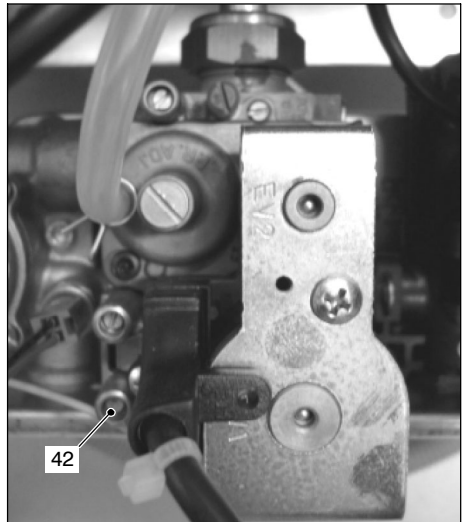

Fig. 7.7
- Loosen the internal screw on the Inlet Pressure Test Point 42 (Fig. 7.7) of the Gas Valve and connect a pressure gauge using a suitable hose.
- 9 Disconnect the pressure gauge and close the Inlet Pressure Test Point 42 (Fig. 7.7).